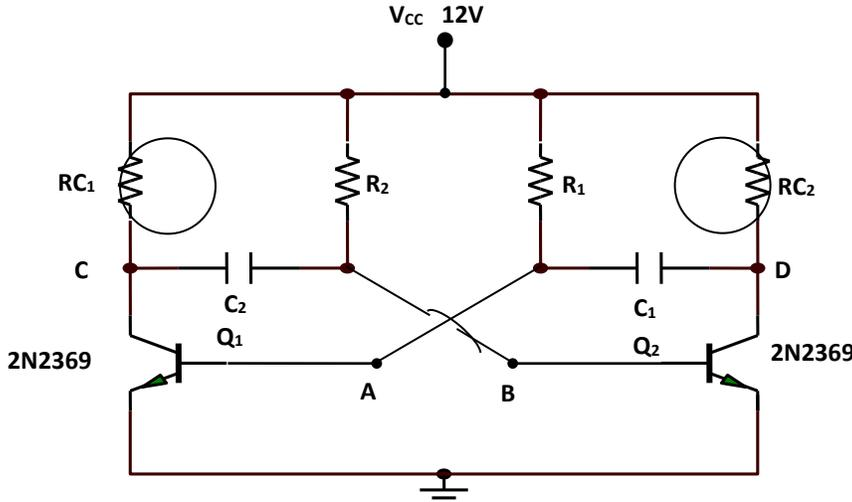

Figure:1
A collector-coupled astable multivibrator using n-p-n transistor in figure 1. The working of an astable multivibrator can be studied with respect to the figure 1.
1. Connect the circuit as shown in figure 1.